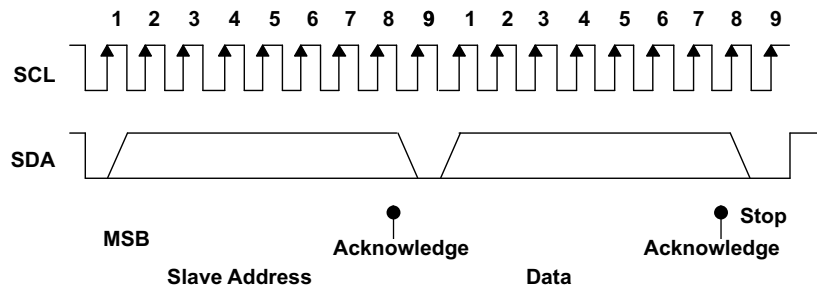

Figure 61. I²C Address and Data Cycles
- The master generates further SCL cycles to either transmit data to the slave (R/W bit 1) or receive data from the slave (R/W bit 0). In either case, the receiver needs to acknowledge the data sent by the transmitter. So, an acknowledge signal can either be generated by the master or by the slave, depending on which one is the receiver. The 9-bit valid data sequences consisting of 8-bit data and 1-bit acknowledge can continue as long as necessary (See Figure 61).